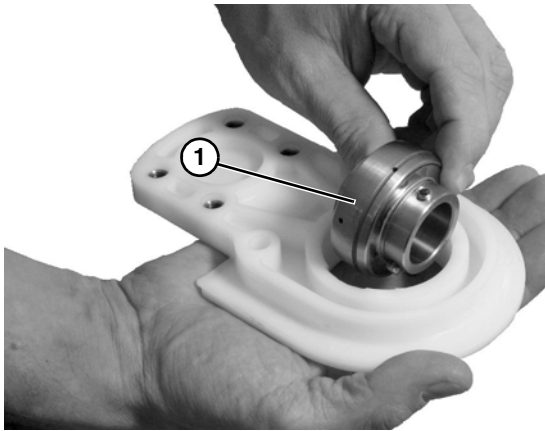

Figure 46
2. Twist the bearing out (**Figure 46, item 1**).